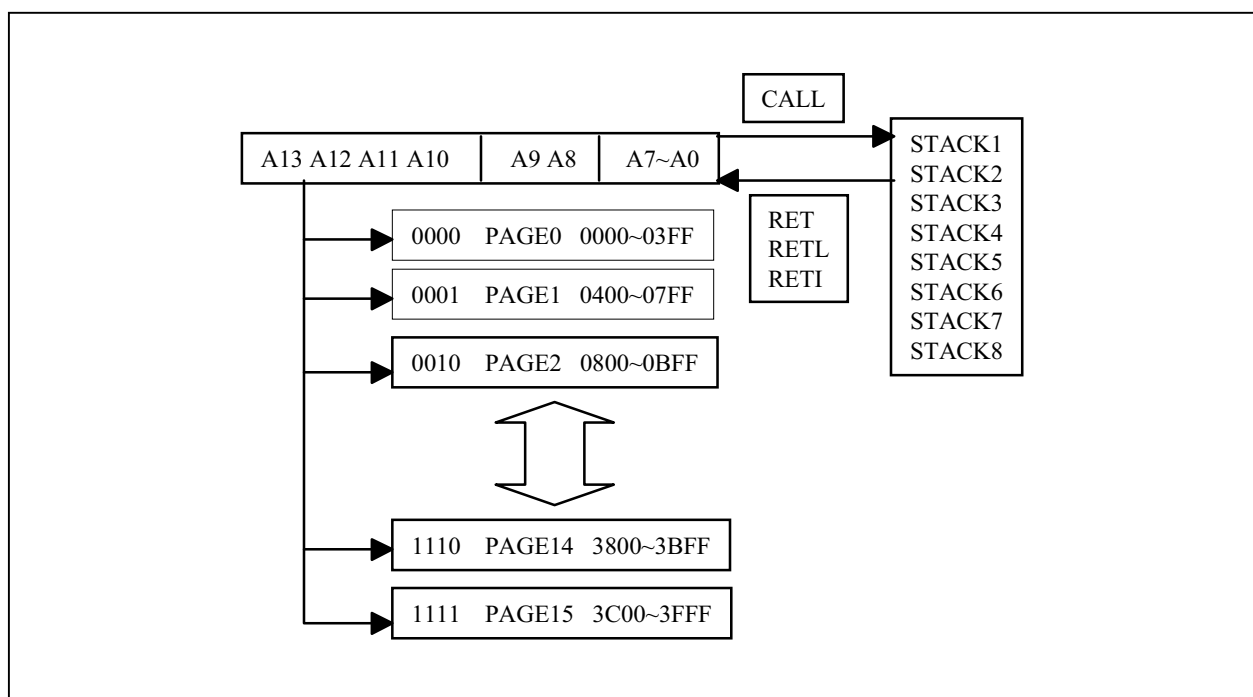

Fig.3 Program counter organization
* The structure is depicted in Fig. 3.